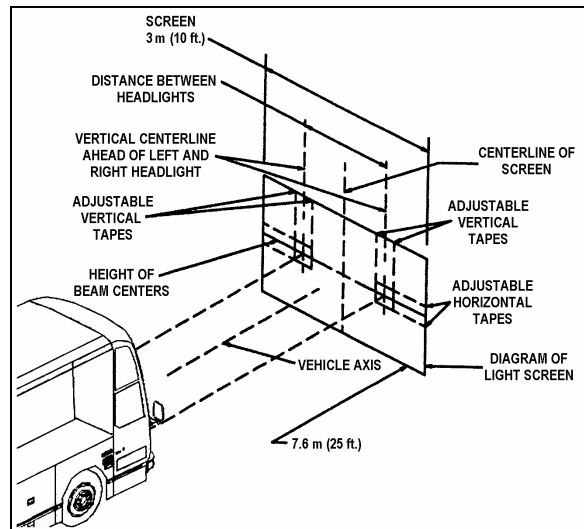

FIGURE 46: A LIGNMENT OF HEA DLIGHT AIMING SCREEN 06502
3. The headlight centerlines shall be spaced either side of the fixed centerline on the screen by $\frac{1}{2}$ the lateral distance between the light source centers of the pertinent headlights. The horizontal tapes should be located on the screen at the upper and lower limits called for in the specification with reference to the height of beam centers and the plane on which the vehicle rests (Figure 46).